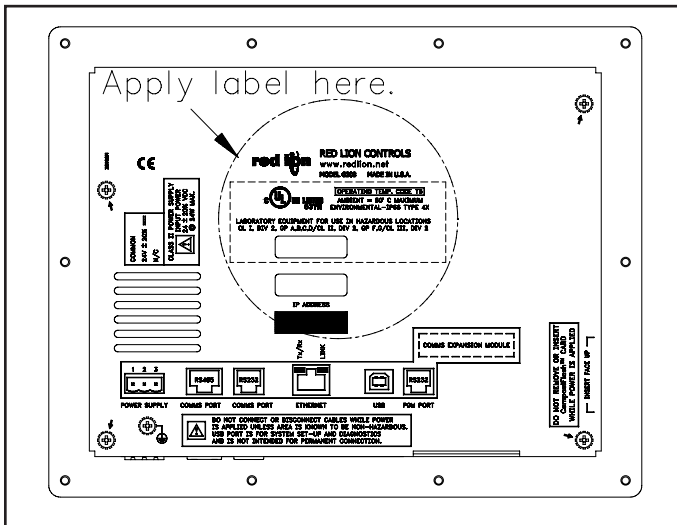

Figure 3
8. Apply the enclosed label to the rear cover in the area indicated in Figure 3. Field replacement of the backlight assembly voids the Hazardous Locations rating of this unit.